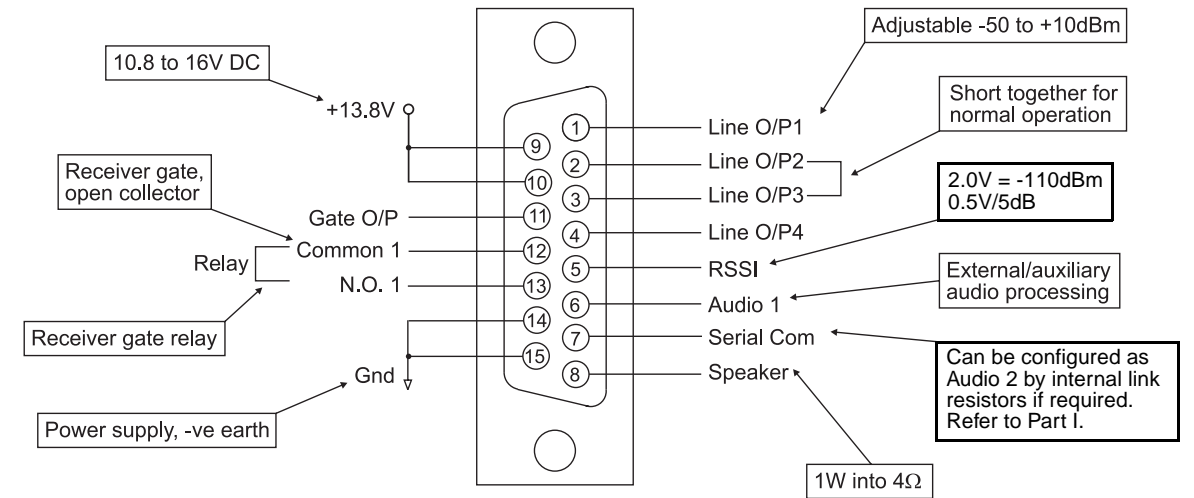
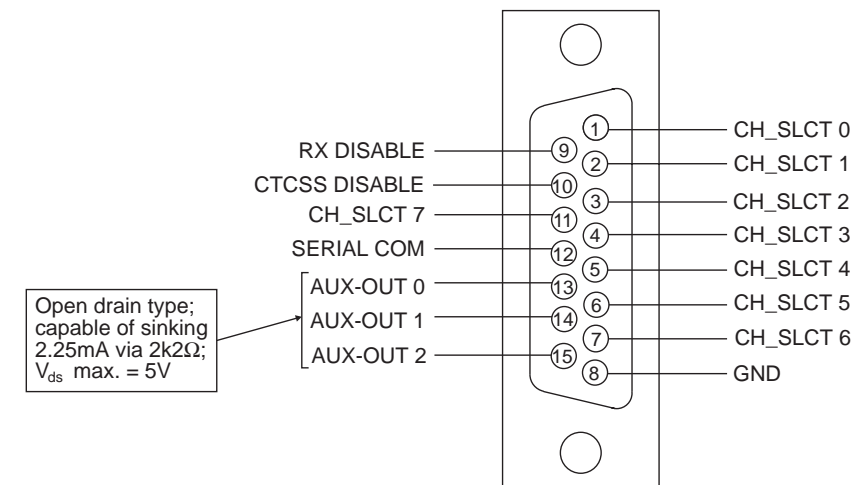

Figure 1.3 T855 D-Range 1 Wiring - Rear View
Figure 1.4 T855 D-Range 2 Wiring - Rear View (standard T800-03-0000 kit)
The D-range input and output connections are shown in Figure 1.3 and Figure 1.4. Ensure that the cables are not subjected to any stresses due to tight bends or incorrect lengths.
**Note:** Figure 1.4 above shows the standard pin allocations for the T800-03-0000 auxiliary D-range kit. A T800-03 auxiliary D-range kit is also available for special applications requiring custom internal wiring.